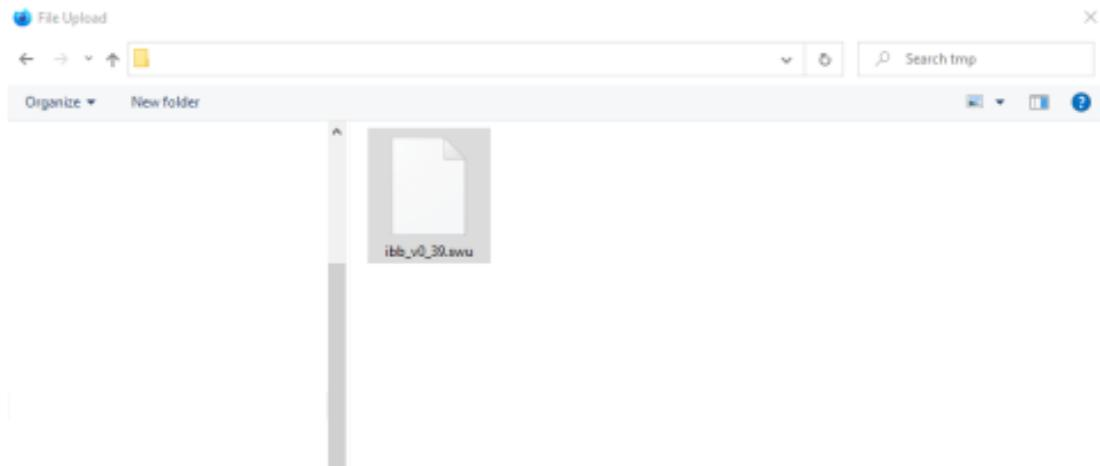

Figure E.1 Firmware Upgrade File
1. Download the latest firmware version on Terrasat Inc. website (<https://terrasatinc.com/resources/firmware-updates/>). Once downloaded, the user should have a compressed zip file. It should look like `ibb_vX_YY.zip`, where X and YY refers to the major and minor update numbers. Extract all contents from the file and verify that the file named `ibb_vX_YY.swu` is present. See Figure E.1 for reference.